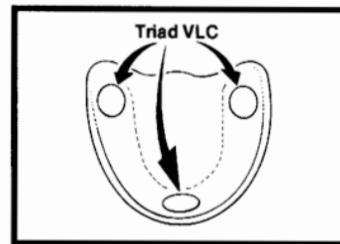

Figure 3 - Maxillary with Tissue Stops
- d. To form tissue stops, place small pieces of TRIAD Hi-Flow or Regular Reline Material in a tripod arrangement. (See Figures 3 and 4.) An alternative arrangement on a maxillary appliance may include